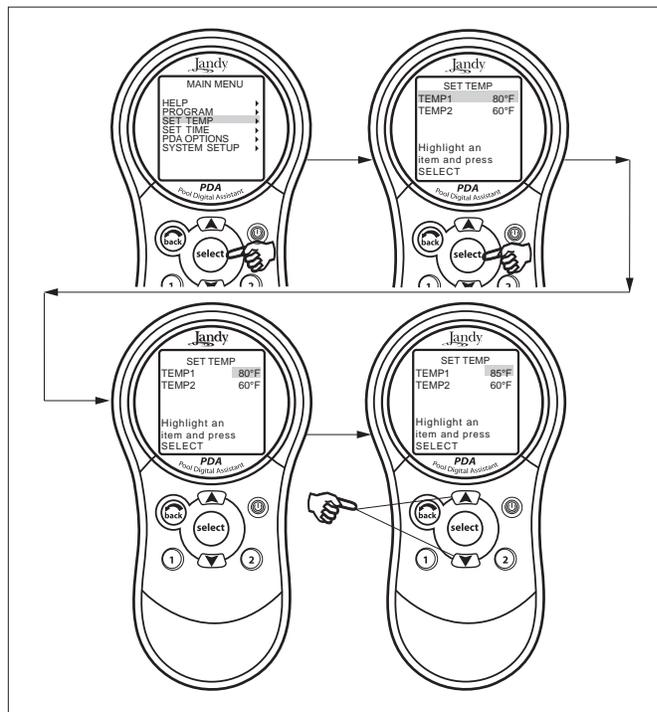

Figure 26. Set Temperature Menu - Pool/Spa Only
**Pool/Spa Only** - Highlight MENU and press SELECT. Highlight SET TEMP and press SELECT (see Figure 26). The message *TEMP1 must be higher than TEMP2* is displayed. Highlight TEMP1 and press SELECT. Use the UP or DOWN button to increase or decrease the temperature and press SELECT. Highlight TEMP2 and press SELECT. Use the UP or DOWN button to increase or decrease the temperature and press SELECT. Use the BACK button to return to the main screen.